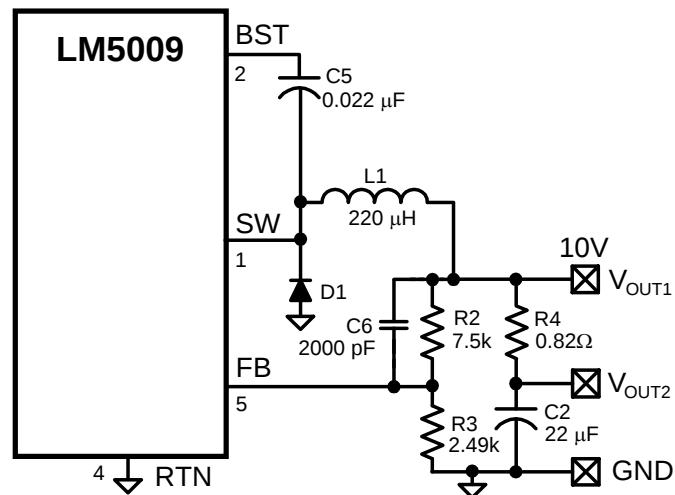

Figure 3. Intermediate Ripple Level Configuration Using C6 and R4
B) Intermediate Ripple Level Configuration: This configuration generates more ripple at V_{OUT1} than the above configuration, but uses one less capacitor. If some ripple can be tolerated in the application, this configuration is slightly more economical, and simpler. R4 and C6 are used instead of R6, C7, and C8, as shown in Figure 3.